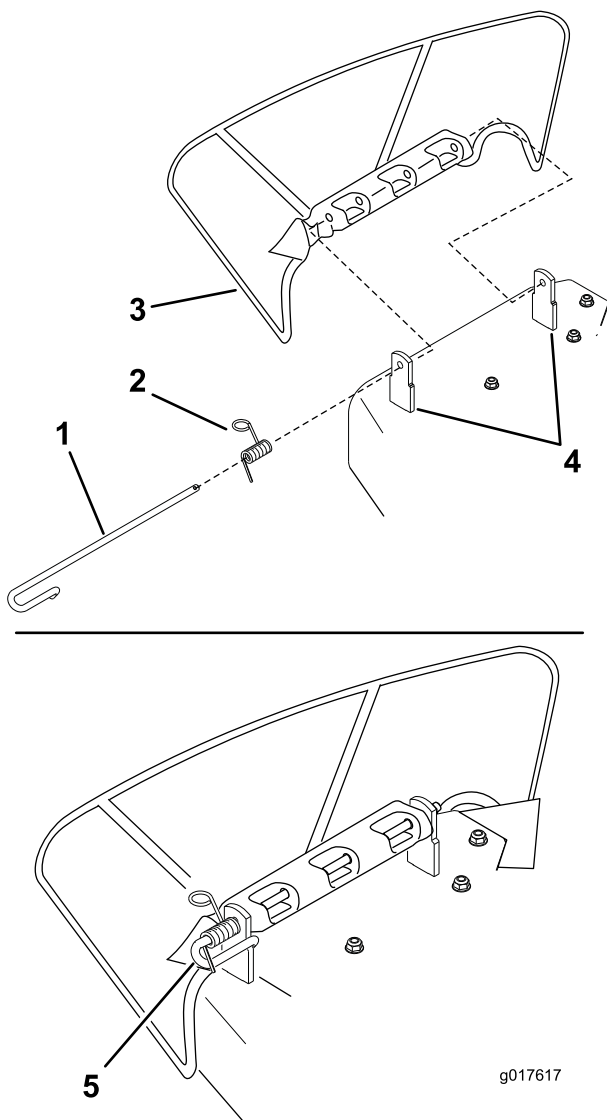

Figure 62
1. Disengage the spring from the notch in the deflector bracket and slide the rod out of the welded deck brackets, spring, and discharge deflector (Figure 62). Remove the damaged or worn discharge deflector.
- Position the new discharge deflector with the bracket ends between the welded brackets on the deck as shown in Figure 62.